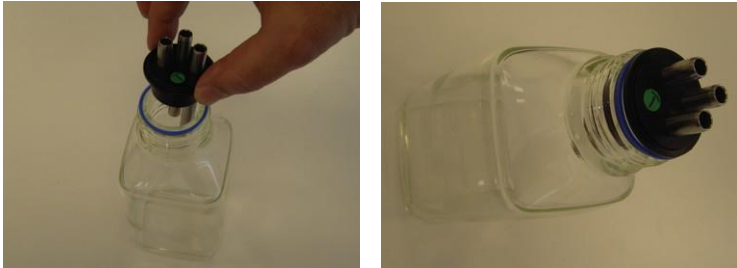

Figure 3-33. Inserting the Stopper into the Jar's Neck
3. Insert the stopper into the neck of the jar, as shown in Figure 3-33.